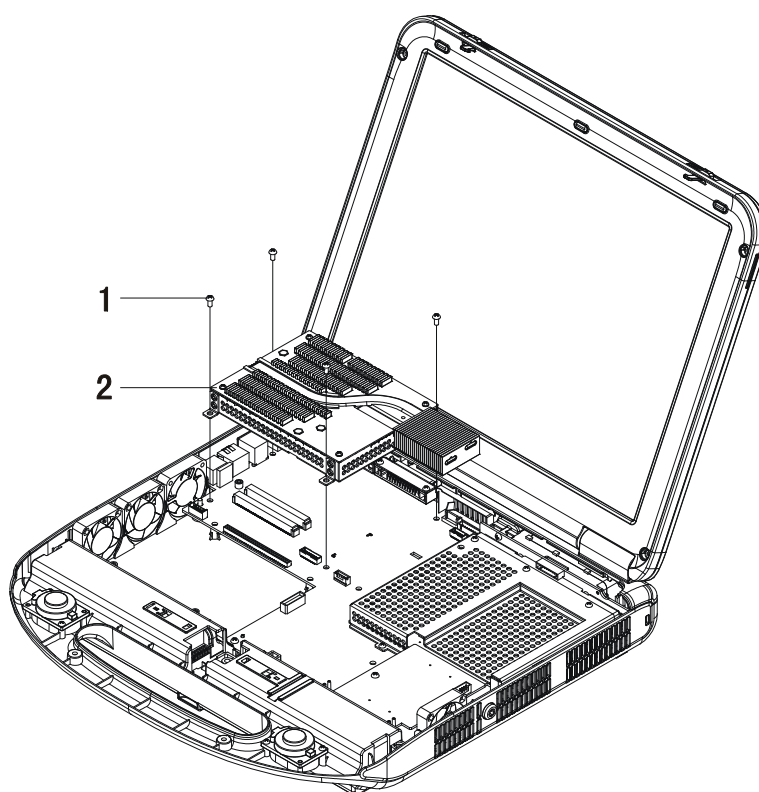

Figure 4-24 Removing CPU Board (760A) and Radiator Module
2) As shown in Figure 4-24, first remove the four M3×6 Philips panhead screws, and then disconnect CPU board and radiator module from the main board;